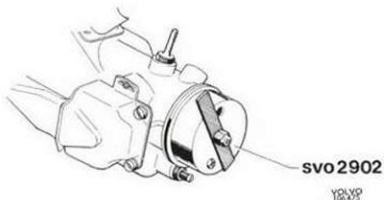

Fig. 3-109. Tools for adjusting engine speed during ignition setting, B 20 E, B 20 F
4. Start the engine. Fit the plastic cover, SVO 2902, on the inlet duct, see Fig. 3-109, and adjust down the engine speed to 11.6—13.4 r/s (700—800 r/m) by moving the bar over the hole in the plastic cover.